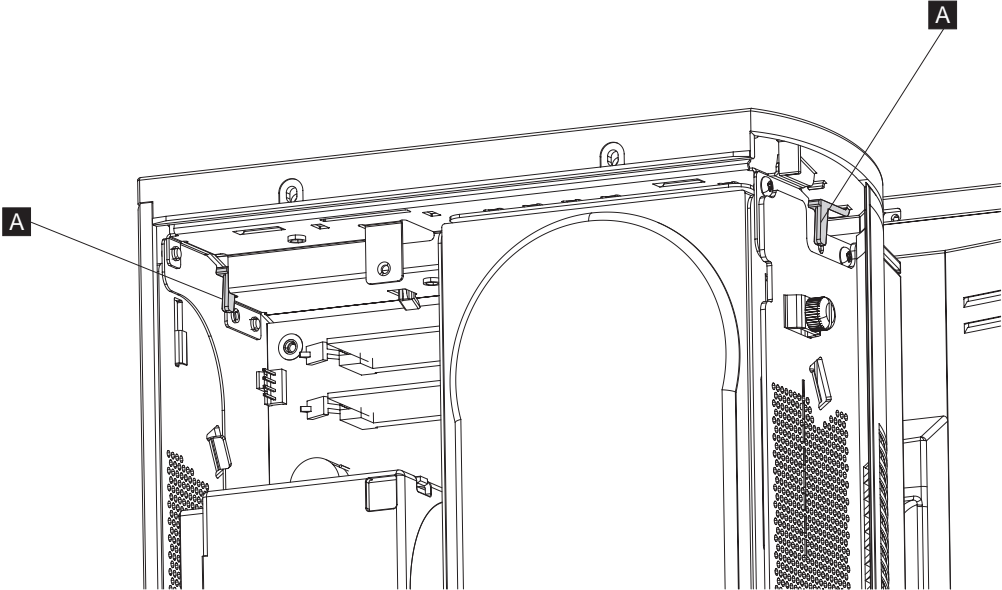

Figure 10. Locating the top cover release latch
4. Facing the rear of the system, lift latch on the left and right (**A** as shown in Figure 10), while sliding the top cover toward the rear of the unit.